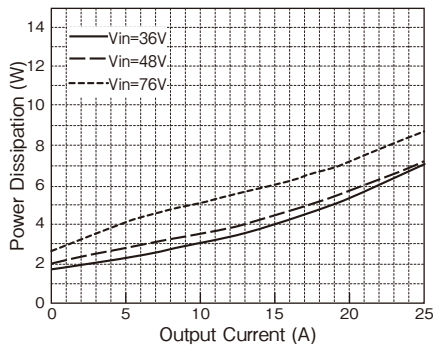

Fig.1-4 PAQ100S48-1R2/B Power dissipation vs Output Current
- 2) When the condition of input voltage and output voltage are different and it is impossible to determine power dissipation (Pd) from Fig.1-4 to 1-8, calculate power dissipation as follows.